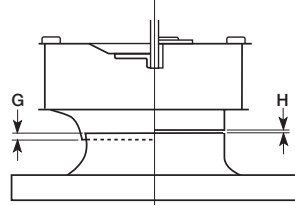

Figure 8 - Wheel Overlap and Gap Dimension
1. Check all fasteners and setscrews for tightness. The wheel should rotate freely and be aligned as shown in Figure 8.